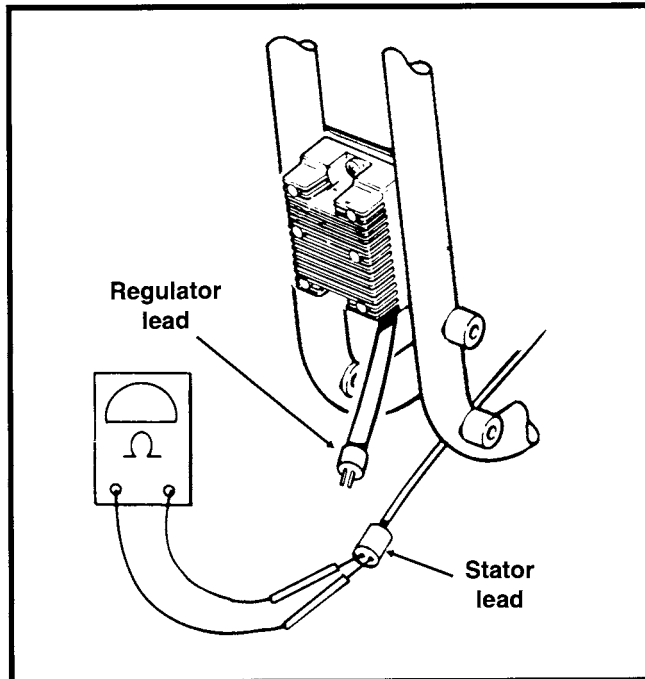

Figure 6. Check for Stator Resistance
3. See Figure 6. Check the resistance using an ohmmeter set on the RX1 scale. Resistance across the stator sockets or pins should be 0.2-0.4 ohms. If the resistance is lower, the stator is damaged and must be replaced.